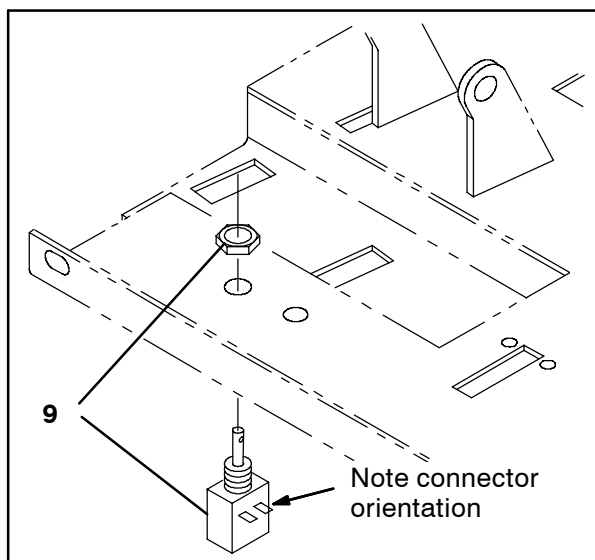
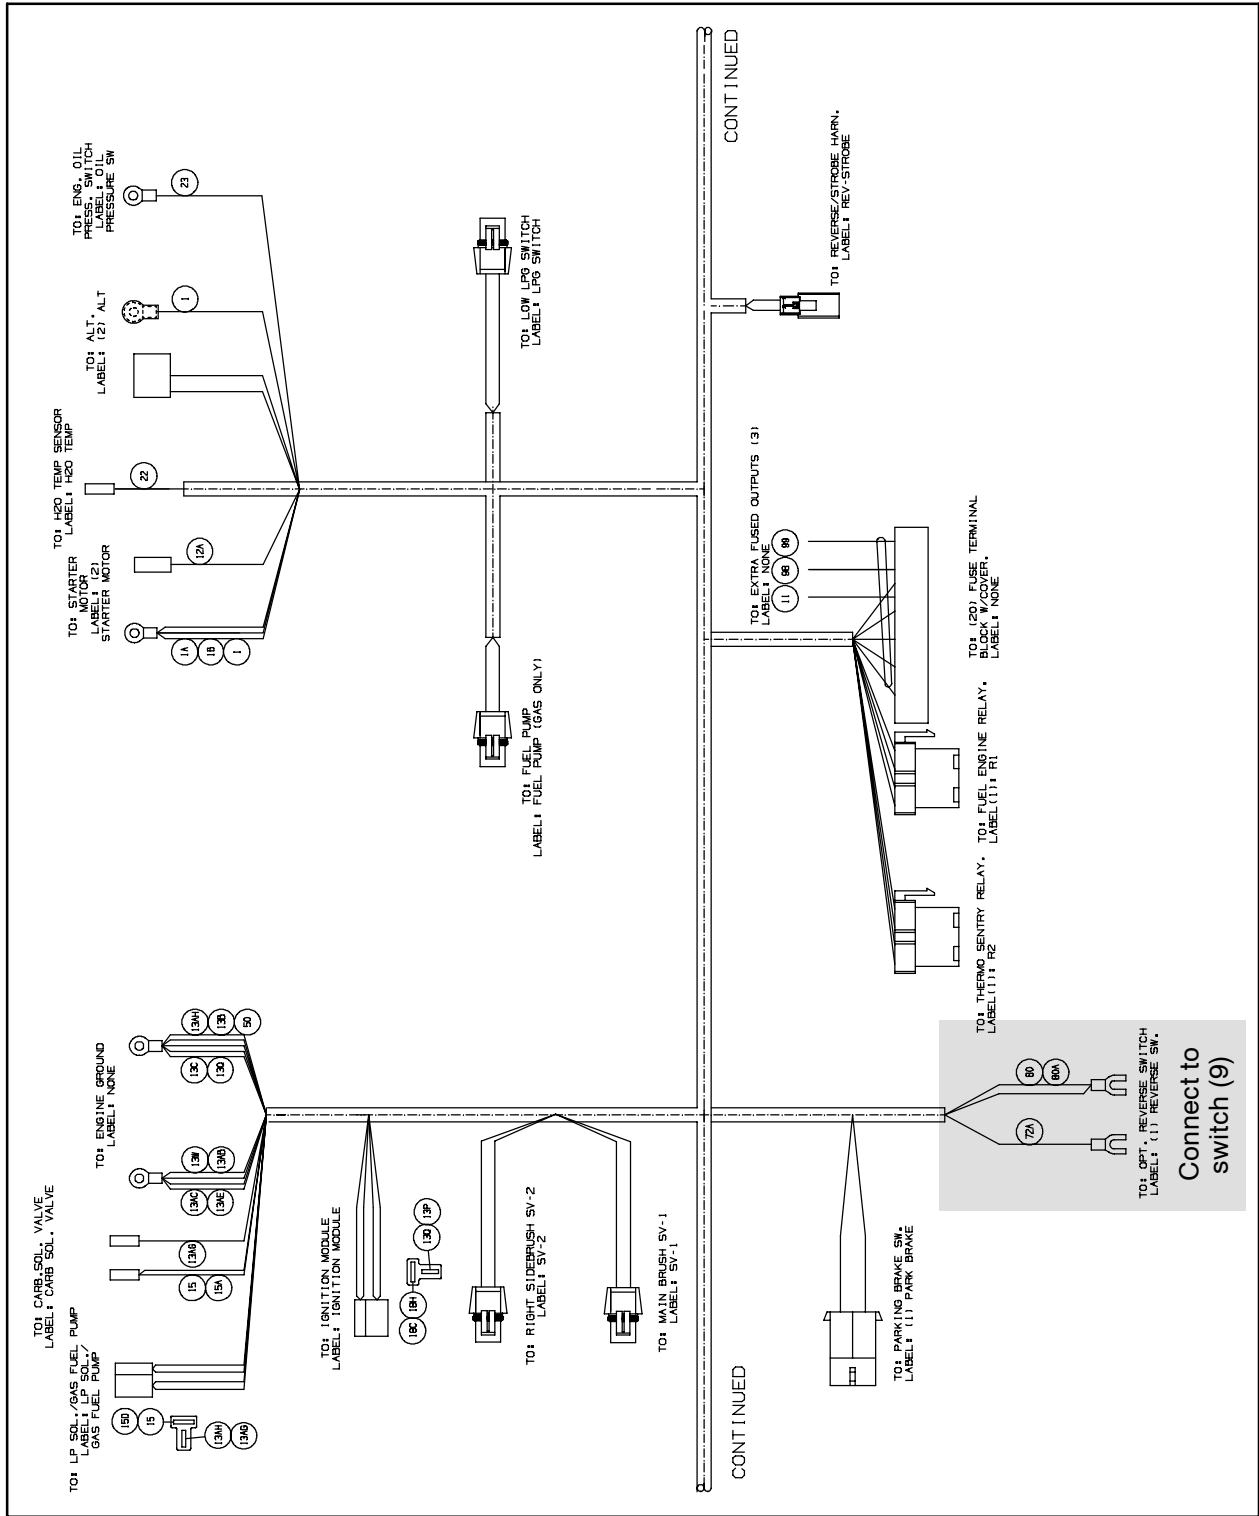

FIG. 10
FIG. 12
- Connect the main wire harness to the switch (9). Refer to Fig. 12.
- Wrap electrical tape around the main wire harness / switch (9) connections from the previous step. No metallic parts should touch the connections. Contact with other metallic parts could cause the system to short and the alarm and lights will not operate.
- Remove the nut from the switch (9).
- Holding the switch (9), reach through the open floor, insert the switch into hole in front of the directional pedal, and thread the nut onto the switch to secure the switch into place. Refer to Fig. 10.